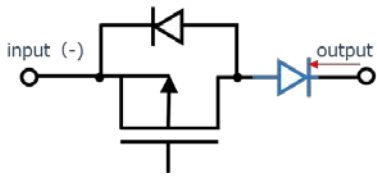

Fig.3.3.1 Added Diode
- Adding a diode to the output path (Fig. 3.3.1)